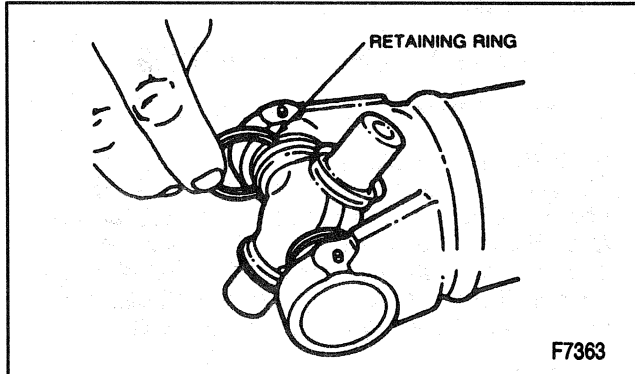

Figure 18—Installing Retaining Ring
4. Bearing retainer in the retainer groove (Figure 18).